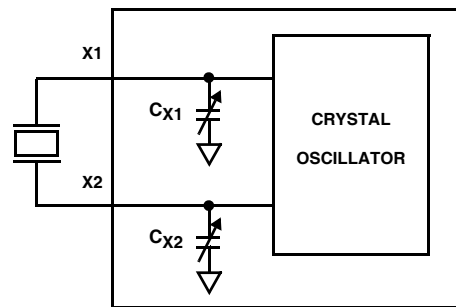

FIGURE 11. DIAGRAM OF ATR
12.5pF (default).  $C_{LOAD}$  is changed via two digitally controlled capacitors,  $C_{X1}$  and  $C_{X2}$ , connected from the X1 and X2 pins to ground (see Figure 11). The value of  $C_{X1}$  and  $C_{X2}$  is given by the following formula: